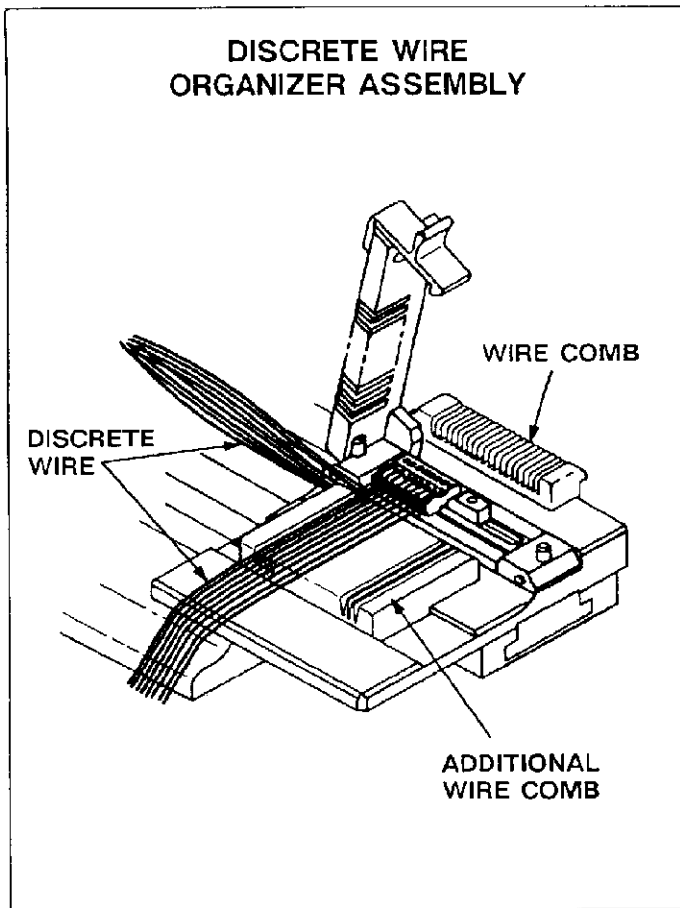
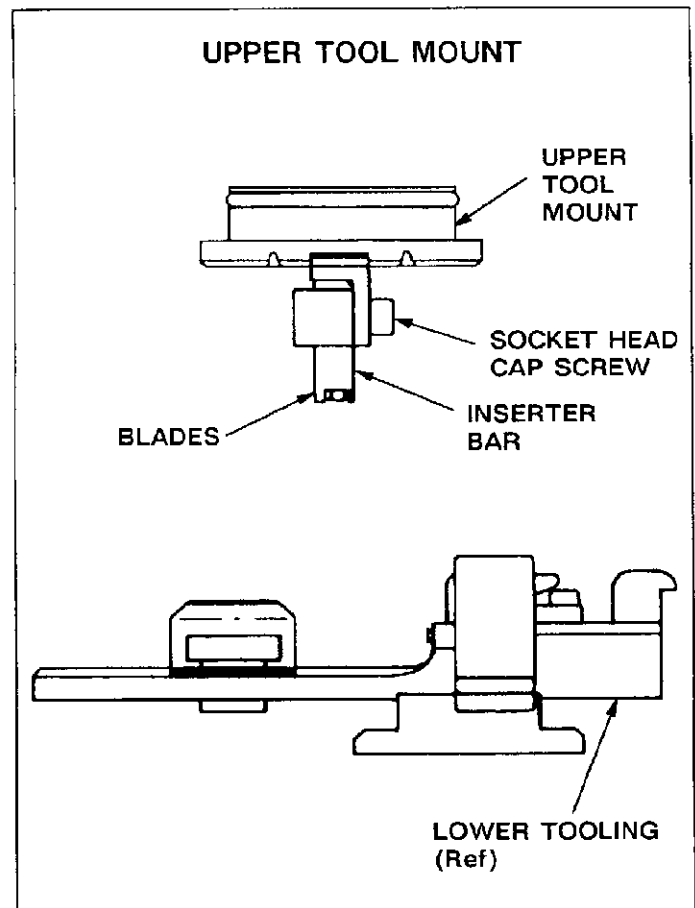

Fig. 2
Fig. 3
The discrete wire organizer (Figure 2) features a 25-position wire comb and a socket head cap screw. The upper tool mount (Figure 3) features a tool mount with an O-Ring.
A. Discrete Wire Organizer Assembly (Figure 2)
B. Upper Tool Mount (Figure 3)
3. Mount the inserter tooling assembly to the pneumatic upper tool mount as shown in Figure 3.
4. Mount the upper tool mount to the pneumatic frame assembly using the four screws that were removed in Step 1. Make sure the heads of the inserter bar screws are facing the direction shown in Figure 3.